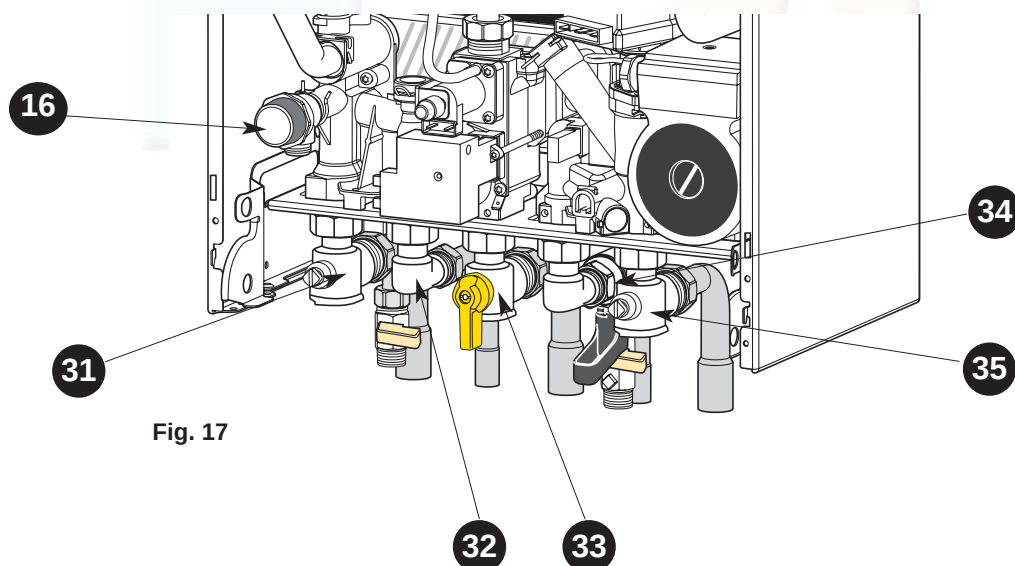

Fig. 17
Connecting bracket Taps shown in Open position (fig. 17)
Starting up (fig. 17)
3. open the gas inlet tap **33** (fig. 17)
- turn off the gas by turning inlet tap **33** (fig. 17)
*In some circumstances, it is possible that the pipes (and possibly a radiator) heat up slightly after hot water is drawn. To prevent this, simply close heating inlet tap **31** (fig. 17).*